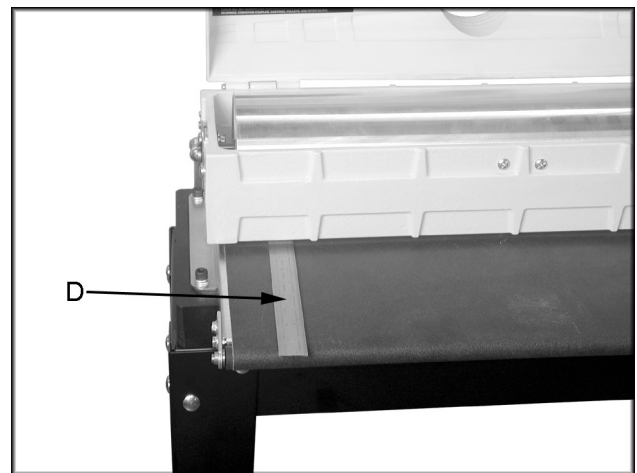

Fig. 4
2. Use a metal straight edge, or ruler as a thickness gauge (D, Fig. 4). Insert the gauge between the drum and conveyor bed on outer end of drum.